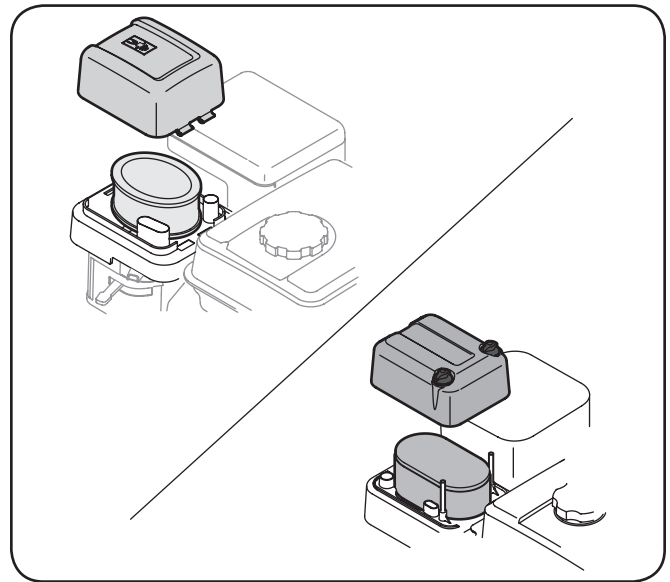

Figure 6-5
1. Press the tab on the air filter cover and lift the cover, or un-thread the thumbscrews, depending on the model of engine you have. See Figure 6-5.